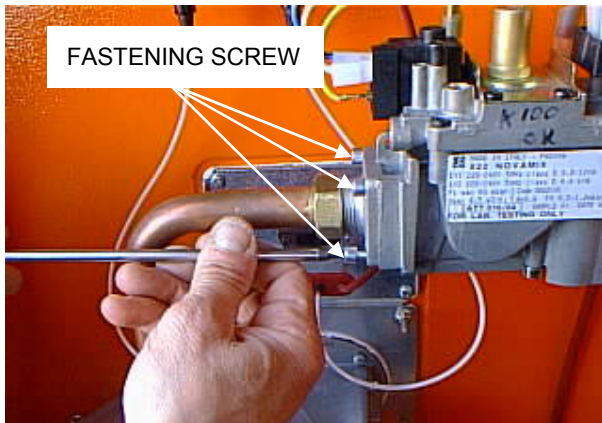

Figure 36 – Gas flange fastening screws.
2. Loosen the four fastening screws from the gas flange (see Figure 36).